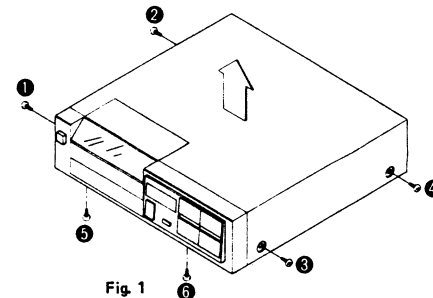

Fig. 1
- Remove the 4 setscrews [Fig. 1 ; ① ~ ④] to remove the cabinet in the direction of the arrow.
- Remove the 2 setscrews [Fig. 1 ; ⑤ , ⑥] of the front panel.
1. Remove the 4 setscrews [Fig. 1 ; ① ~ ④] to remove the cabinet in the direction of the arrow.
2. Remove the 2 setscrews [Fig. 1 : ⑤, ⑥] of the front panel.